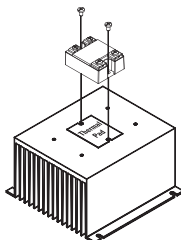

fig. 1 SSR mounted on HS053 heat sink (A)
- ◆ SSR mounting slots have a diameter of 0.2 in (5.0 mm). Two screws are needed to mount the SSR onto heat sink (See fig. 1). Mounting screws are sold separately as HK1 and are suitable for all Crydom heat sinks. Otherwise, recommended screw size is 8-32 (UNC standard) or M4 (metric). Choose screw length considering the mounting surface and that SSR baseplate thickness is 0.125 in (3.2 mm).